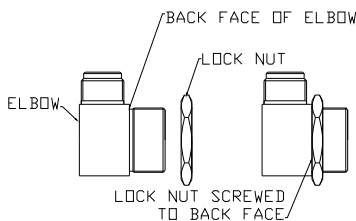

FIGURE 3
5. Screw lock nut on elbow to the back face of elbow. SEE FIGURE 3